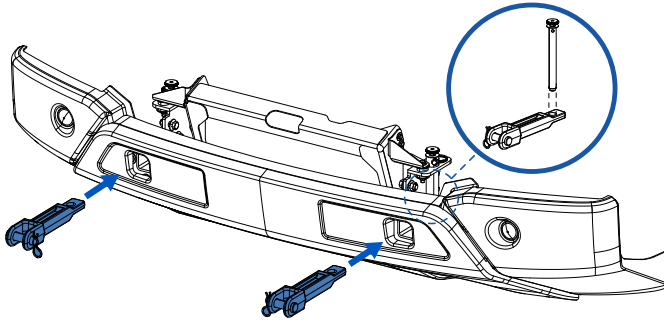

Figure 7 - Tow hooks and locking dowel
2. Lift the locking dowels (**Figure 7 no. 2**).
3. Insert the tow hooks into the openings of the bumper cover (Figure 7).